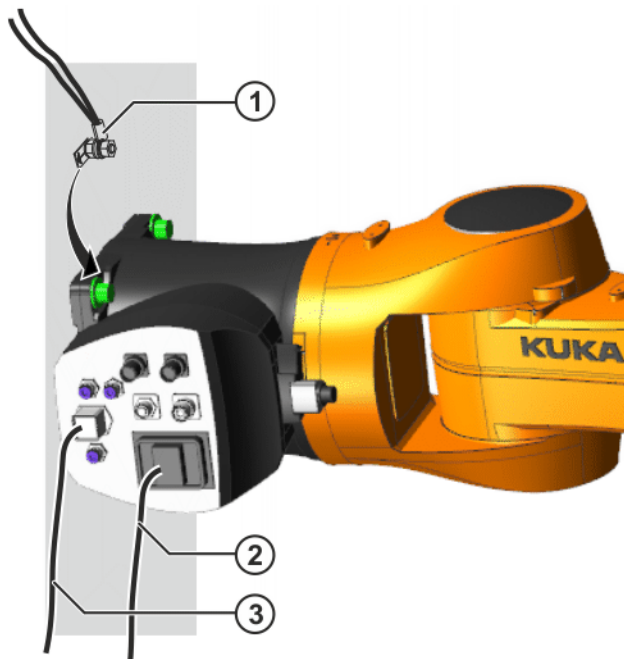

**Fig. 8-8: Rotating the swivel holders outwards**
15. Rotate the swivel holders outwards (>>> Fig. 8-8 ).